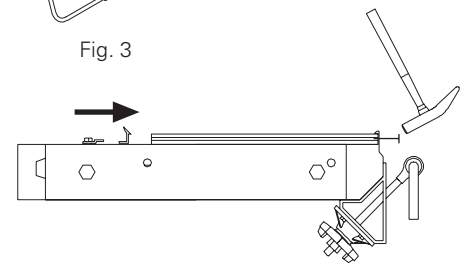

Fig. 3a
5. Push clamping profile over chamfer strip. Fig.3a
9. Nail plywood sheet to prevent slipping. Use drilled holes in the guide. Fig.3a